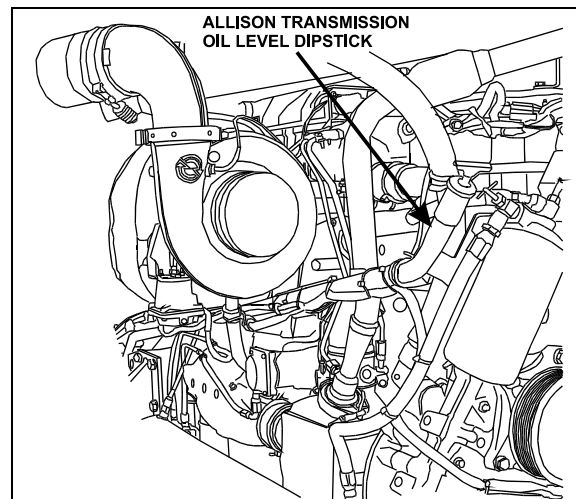

FIGURE 4: OIL LEVEL DIPSTICK (AUTO. TRANS.)
To gain access to the dipstick, open the engine compartment rear doors; dipstick is located on the radiator side of the engine (Fig. 4).
3. Shift to Drive (D) and operate the engine for 30 seconds at 1000-1500 rpm; then shift to Reverse (R) to clear the hydraulic system of air.
5. Finally shift to Neutral (N) and allow the engine to idle (500 - 800 rpm).
6. While the engine is running, remove the dipstick from the tube and wipe it clean (Figs. 4 & 5). Insert the dipstick into the fill tube, pushing down until it stops.